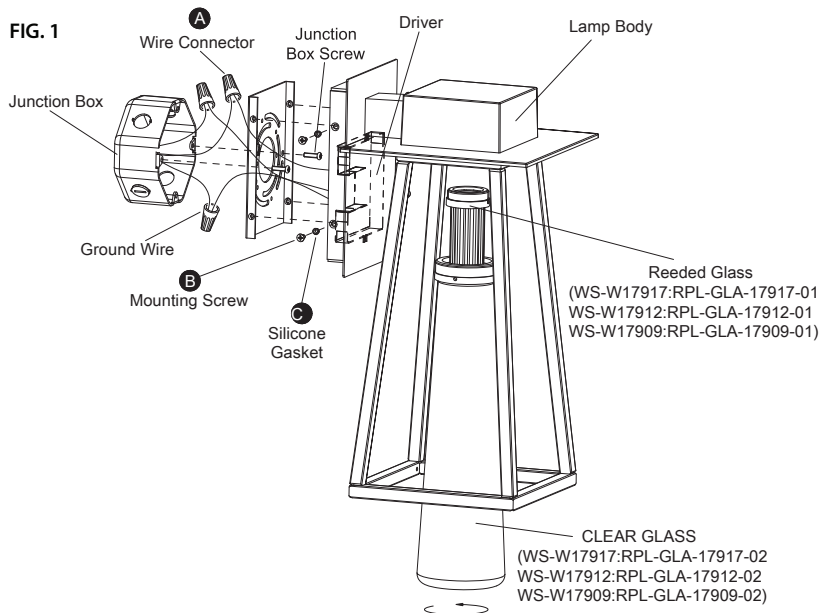

FIG. 2 Wiring
CONNECTING THE WIRES (Fig. 2)
5. Connect the driver's input wires to junction box wires as shown in Fig. 2, making sure that all wire connectors (A) are secure. If your outlet box has a green or bare copper ground wire, connect the fixture's ground wire to it. Otherwise, connect the fixture's ground wire directly to the back plate using the green screw provided. After wires are connected, tuck them carefully inside the junction box.